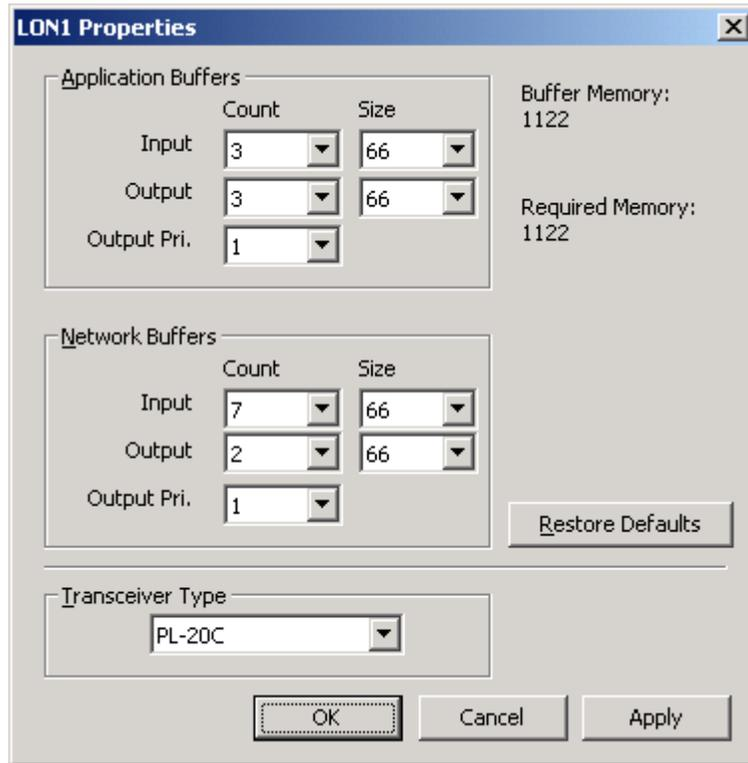

Figure 2.2 Properties Dialog
3. Select the USB interface you want to configure and then click **Properties**. This opens the dialog shown in Figure 2.2.